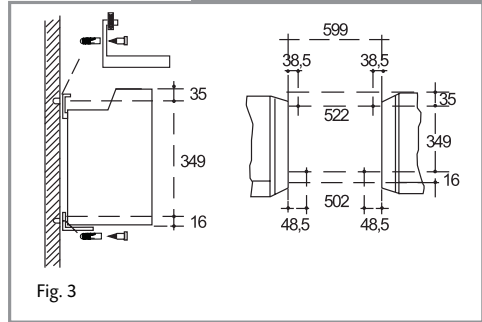

Fig. 3
1. Mark the positions of the fixing holes on the wall using the dimensions shown in Fig 3.